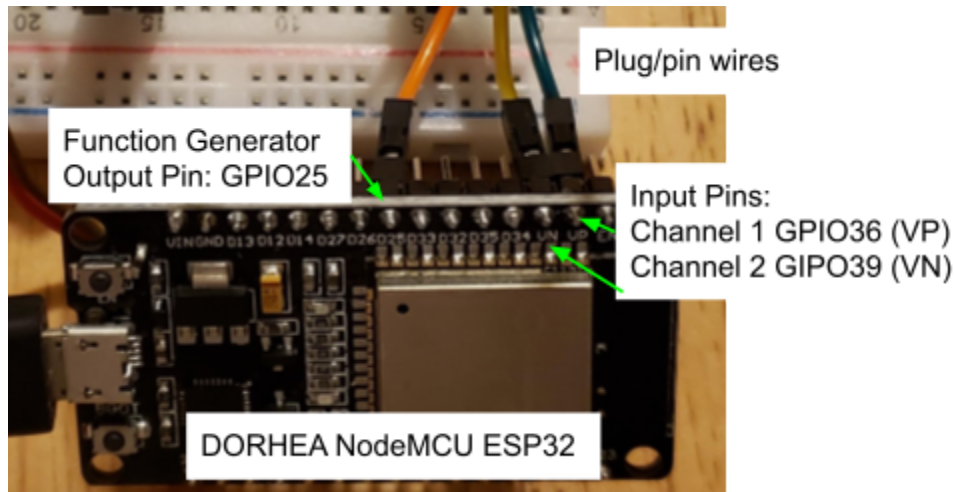

Figure 3: OscilloSorta on ESP32 PICO board with connection wires and DORHEA ESP32 board with plug wires.
- 1) Hook up the function generator output pin (GPIO25 labeled 25 or sometimes D25) to Channel 1 of the OScope (GPIO36 labeled VP or sometimes 36) so we can visualize both function generator output and oscscope display. This may be easiest to do on a solderless breadboard, or you can attach plugs as shown in Figure 3.